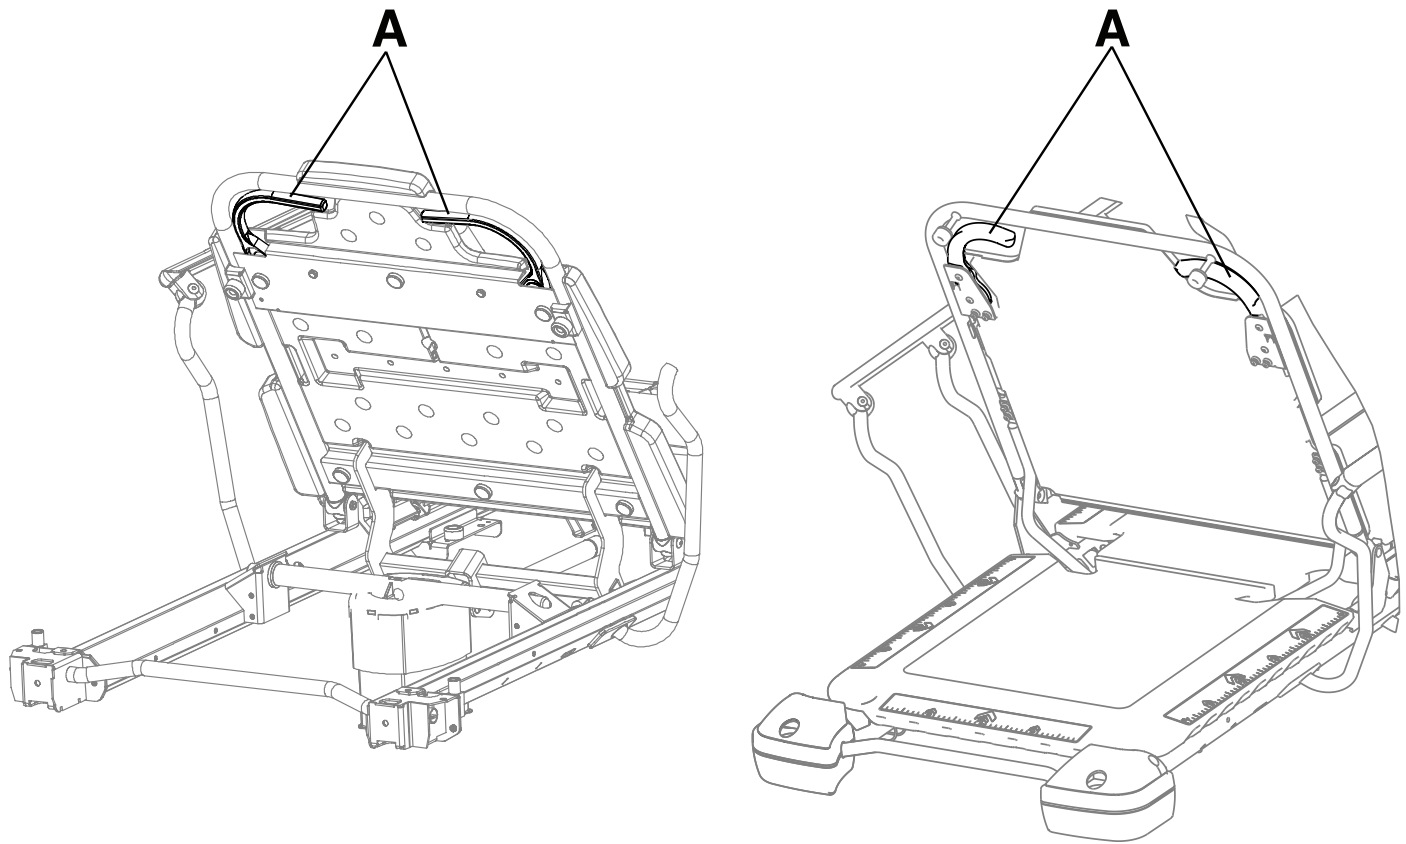

Figure 19 – Raising or lowering the Fowler backrest (Prime / Prime X)
To raise the Fowler backrest, squeeze one or both of the Fowler backrest release handles (A) and pull the Fowler backrest up to the desired position (0° to 90°) (Figure 19).
To lower the Fowler backrest, squeeze one or both of the Fowler backrest release handles (A) and push the Fowler backrest down to the desired position (90° to 0°) (Figure 19).